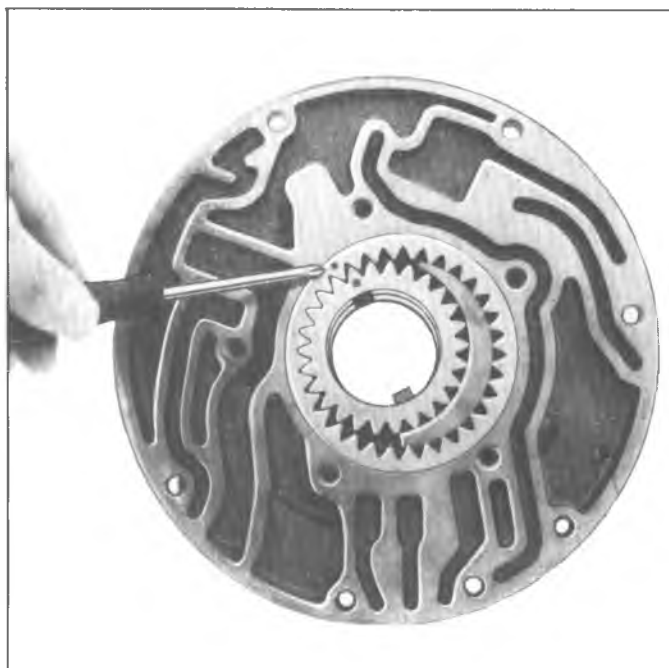

Fig. 59N--Installing Pump Drive and Driven Gears
3. Install pump drive gear and driven gear (fig. 59N).
5. Install three (3) direct clutch to pump hub hook type oil seal rings. Install two (2) forward clutch to pump hub hook type oil seal rings.